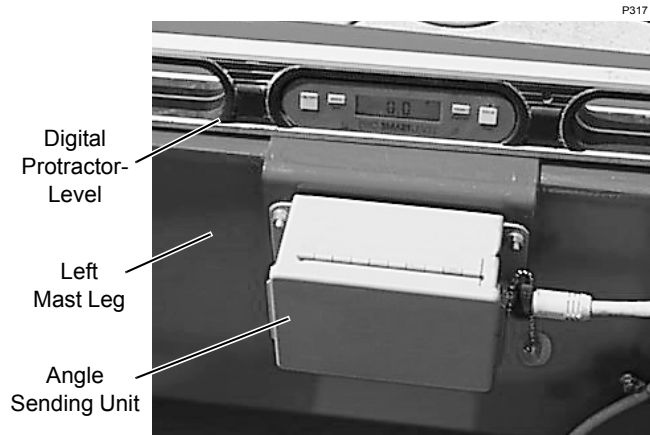

FIGURE 4-6
Angle indicator sensors are located inside the node controllers mounted on the boom top and on the luffing jib top (see Figure 4-6). The boom and luffing jib angles are calibrated automatically by the crane's programmable controller as part of the load indicator calibration procedure (see RCL Operation Manual for instructions).
See Figure 4-6 for the following procedure.
The mast angle sending unit (Figure 4-6) houses a solid-state sensor (Figure 4-8) which provides an electric signal to the crane's programmable controller. The programmable controller uses the signal for the following purposes:
3. Place a digital protractor-level on mast (Figure 4-6) and note mast angle.